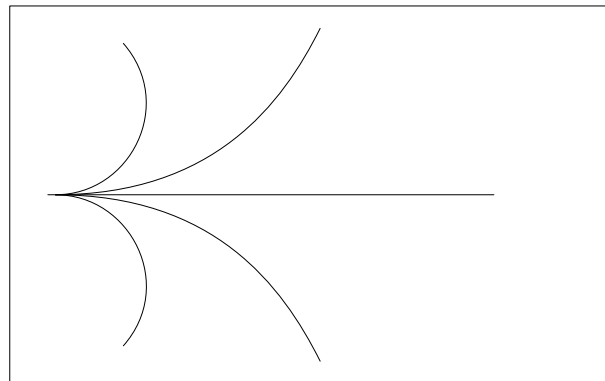

Figure 1: Robot trajectories for estimating the drive system characteristics.
2. Program your robot to follow trajectories as indicated in the figure 1. Use three different translational velocities  $v$  (excluding zero) and 5 different rotational velocities  $\omega$  (including zero and symmetrical regarding clockwise/counter-clockwise, example:  $20^\circ/\text{s}$ ,  $10^\circ/\text{s}$ ,  $0^\circ/\text{s}$ ,  $-10^\circ/\text{s}$   $-20^\circ/\text{s}$ ). In total these are 15  $v, \omega$  combinations, each will later be executed 10 times.